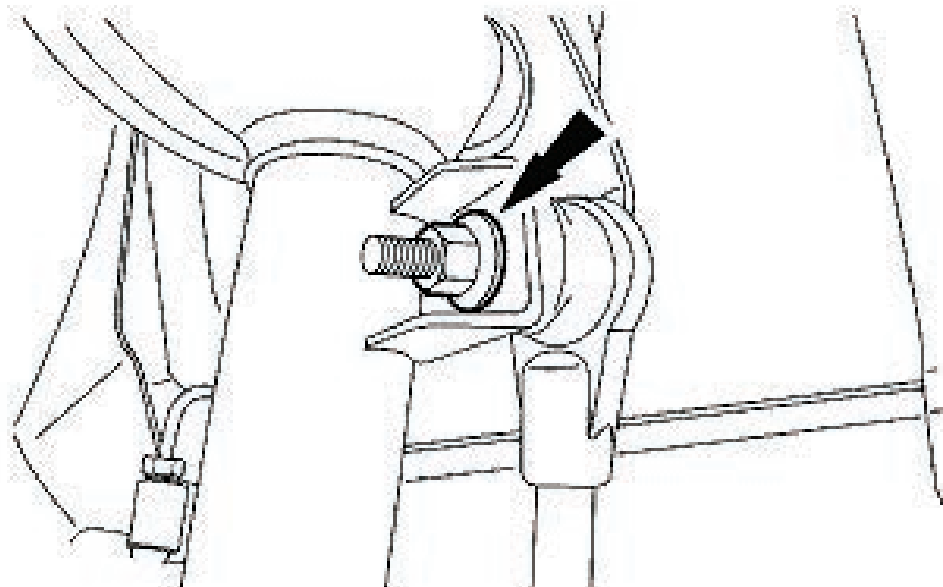

fig. 3
3. Unthread the stabilizer link nut from the strut and free the linkage from the strut (fig. 3).
2. If the custom ride height is lower than stock, we recommend loosening all pivot points (bolts, nuts) on any control arm, strut arm or radius rod that contains bushings (figs. 3 & 4). Once they have been loosened, re-torque to stock specifications (Table 1).